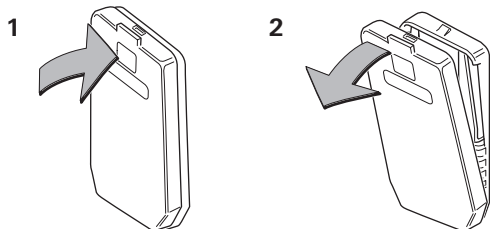

Fig. 3a
- Press the palm against the lid (Fig.3a - 1) while pulling the lid off the cowl (Fig.3a - 2).